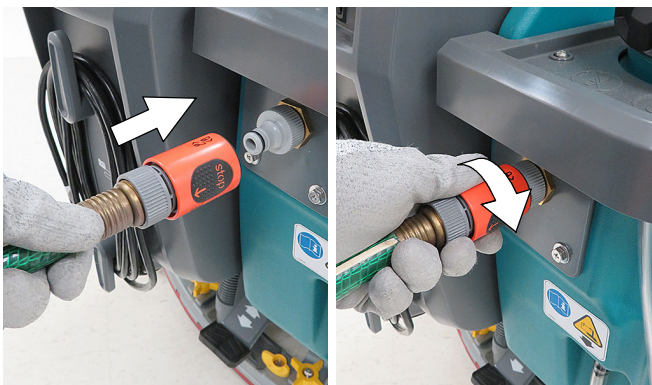

FIG. 24
2. Press the quick-disconnect coupler into the nipple fitting unit it clicks (Figure 24). To prevent hose from being pulled out while tank is being filled, turn collar on coupler clockwise to lock connection.